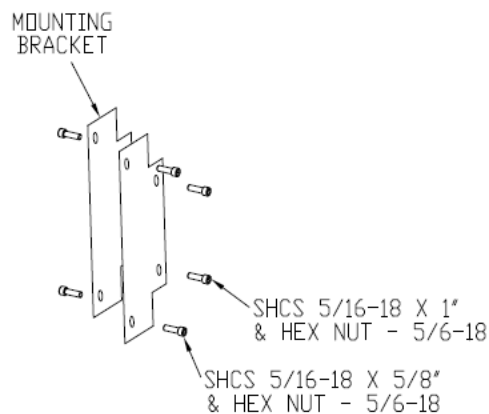

Figure 2
1) Install the mounting bracket on the back side of the right hand Mounting Bar Assembly using (2) 5/16"-18 X 1" SHCS and (2) 5/16"-18 Hex Head Cap Screw. Note that the shorter side of the bracket goes onto the Mounting Bar. Tighten the hex nuts. Repeat on the left side. (Ref. Figure 2).
1) Mount the Sensor hood to the top side mounting bracket using (2) 5/16"-18 X 5/8" SHCS and (2) 5/16"-18 Hex Head Cap Screw. Note that the Sensor Hood mounts to the longer side of the bracket.
2) Tighten the hex nuts. Repeat on the bottom side. (Ref. Figure 2)